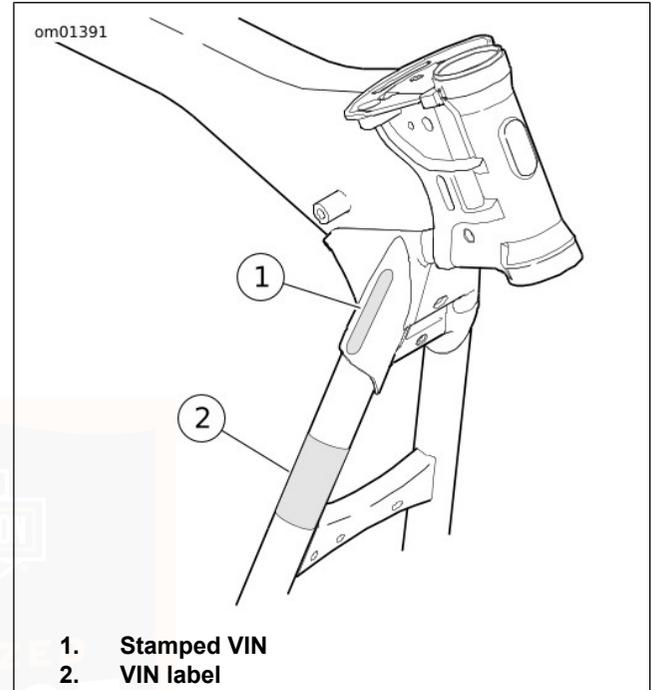

Figure 1. VIN Locations
See Figure 1. The full 17-digit VIN (1) is stamped on the right side of the frame near the steering head. In some destinations, a printed VIN label (2) is also attached to the front downtube.